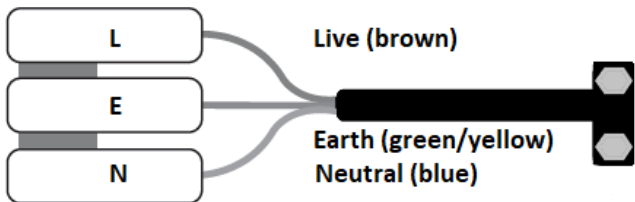

Fig. 1
- Ensuring correct polarity is observed, carefully wire as shown in Fig. 1